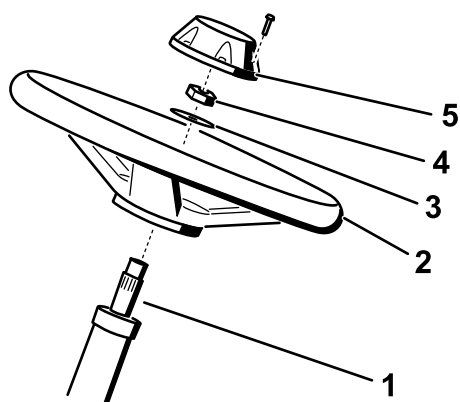

Figure 6
1. Apply anti-seize compound to the steering shaft (shown in Figure 6).
2. Install the wheel to the steering shaft using the washer and locknut (Figure 6).
4. Install the cap to the wheel (Figure 6).